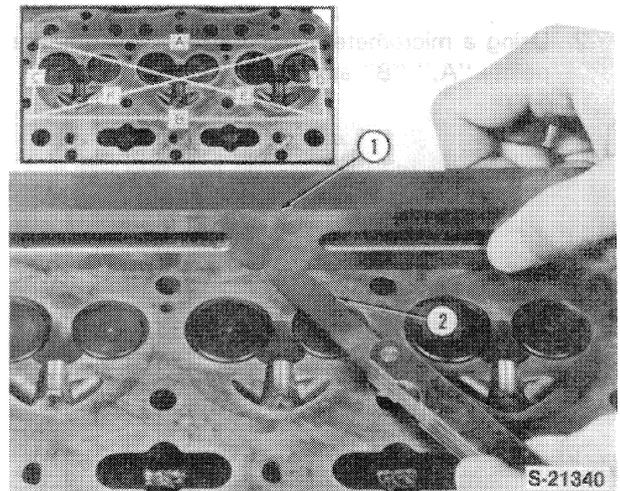

Figure 33
- Using a straight edge and feeler gauge, check the cylinder head for warpage as shown, Figure 33.